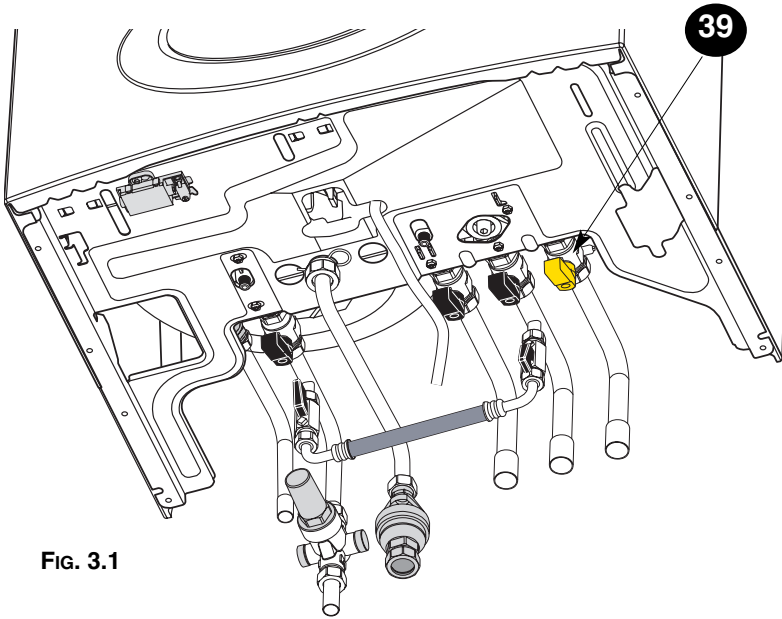
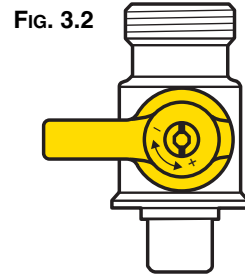

FIG. 3.1
FIG. 3.2 GAS COCK CLOSED
2. Check that the gas service tap 39 (Fig. 3.1) is opened (Figs. 3.2 and 3.3) and that the mains power is on, On/Off push button 26 Power ON.
A method for initially filling the system and replacing lost water during servicing and initial filling (in accordance with current Water Regulations), is provided as an integral part of the connection kit (see Fig. 3.1).